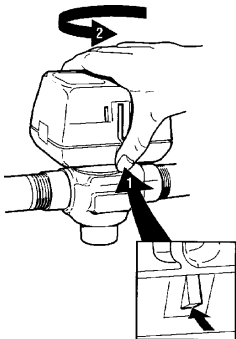

Figure 3: Actuator Head Removal.
4. The actuator head is automatically latched to the valve. To remove, press up on the latch mechanism located directly below the red manual open lever with thumb (See Figure 3 below). Simultaneously press the actuator down towards the body with moderate hand force and turn the actuator counter-clockwise by 1/8 turn (45 degrees). Lift the actuator off the valve body.
5. Install the new actuator by reversing the process in (4).